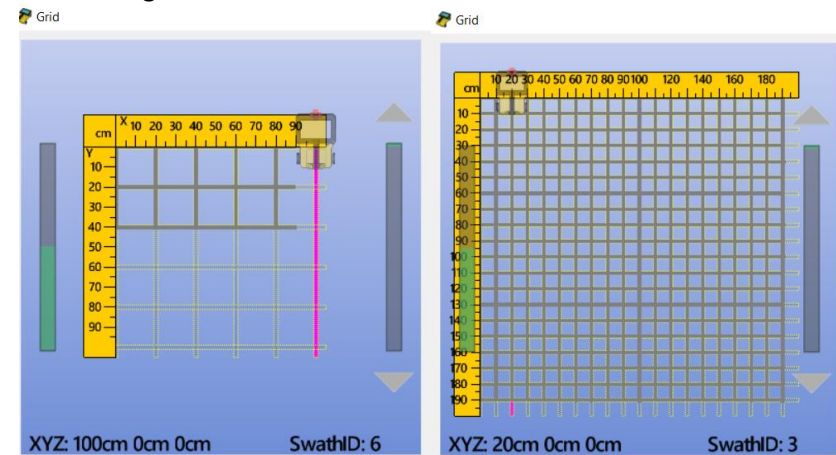

Fig. 46– Grid Settings Spacing and Grid Size (m)
- **Grid Settings:** this allows turning on the Autostop function for grid acquisition. Slide the bar next to “Autostop” to turn the function on. Once the bar is turned on and blue, the user can input the length of the grid lines in the “Autostop Distance” box (Fig. 46). When collecting in grid mode, the C-thrue will now automatically stop at the distance chosen by the user. The user can set the “Spacing” between two consecutive scans from 5cm up to 20cm with 1cm step and “Grid Size